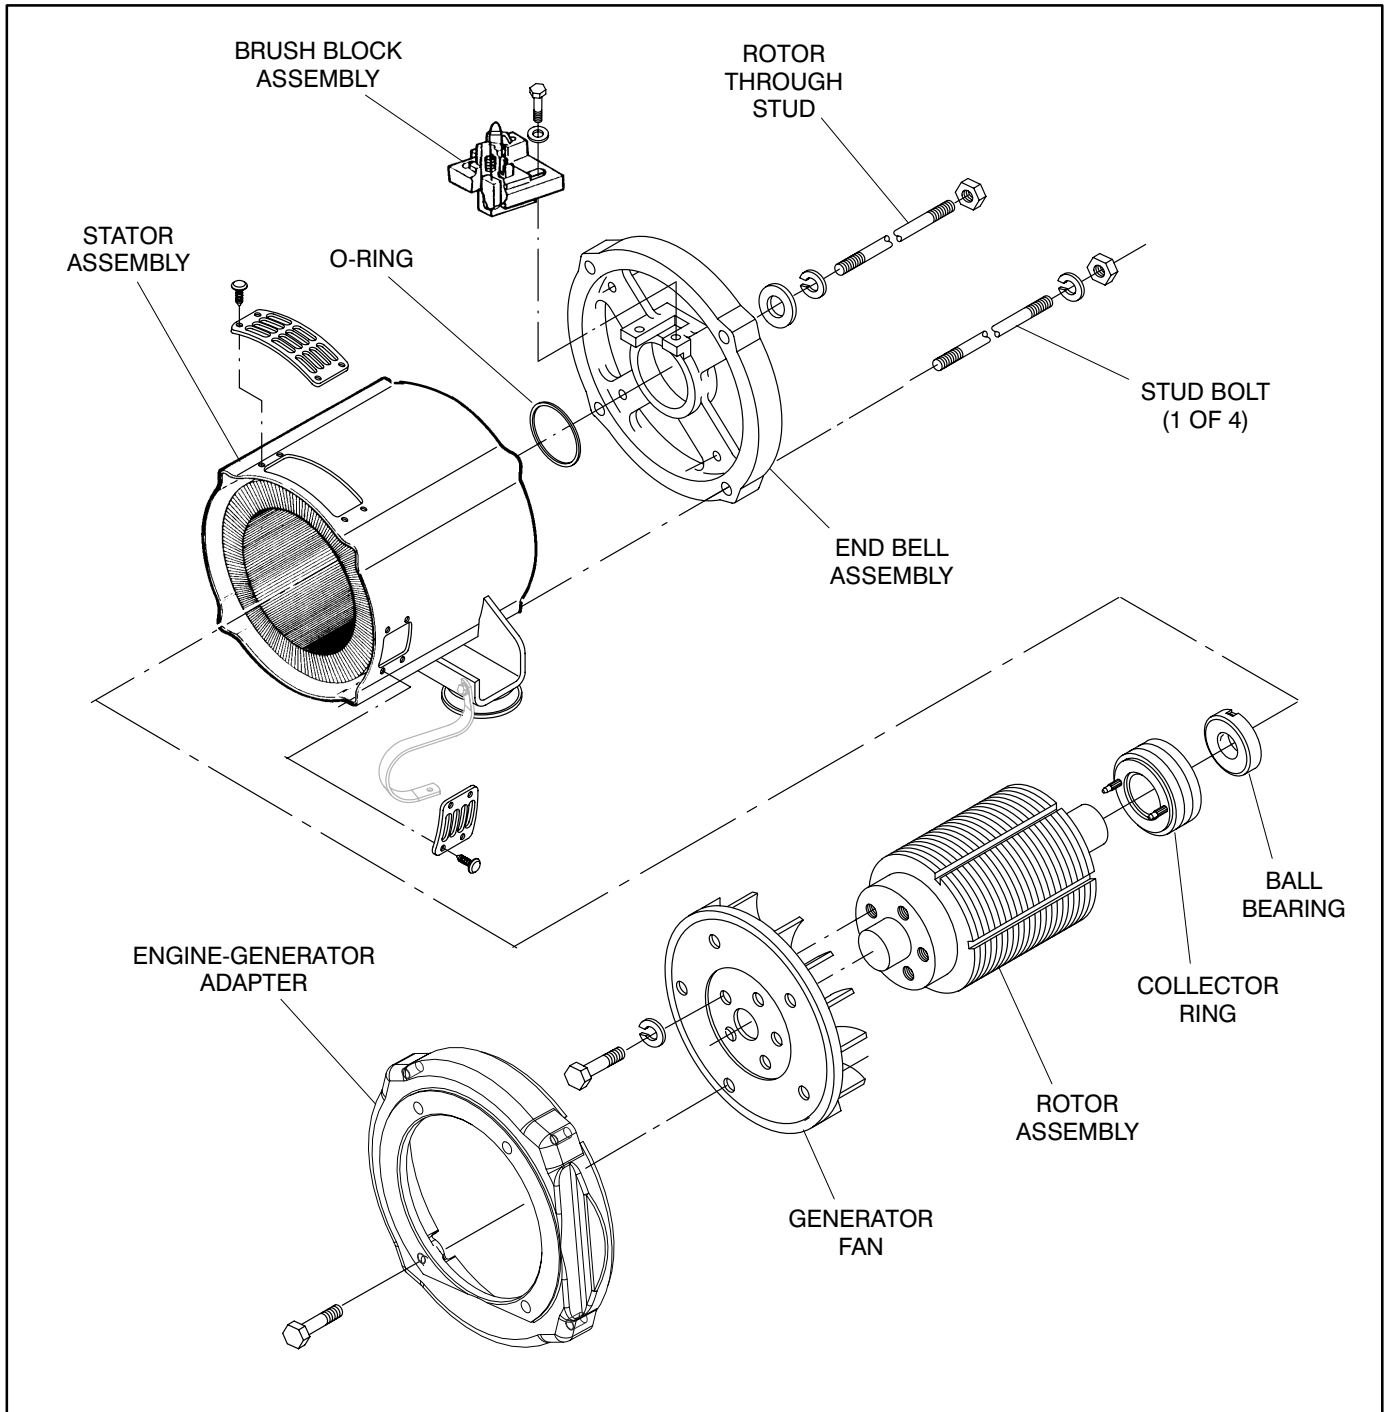

FIGURE 8-6. GENERATOR DISASSEMBLY/REASSEMBLY
11. Remove four nuts and lock washers from the generator stud bolts. Pry the end bell free of the rotor bearing. Be careful not to damage the brush holder. (Figure 8-6).